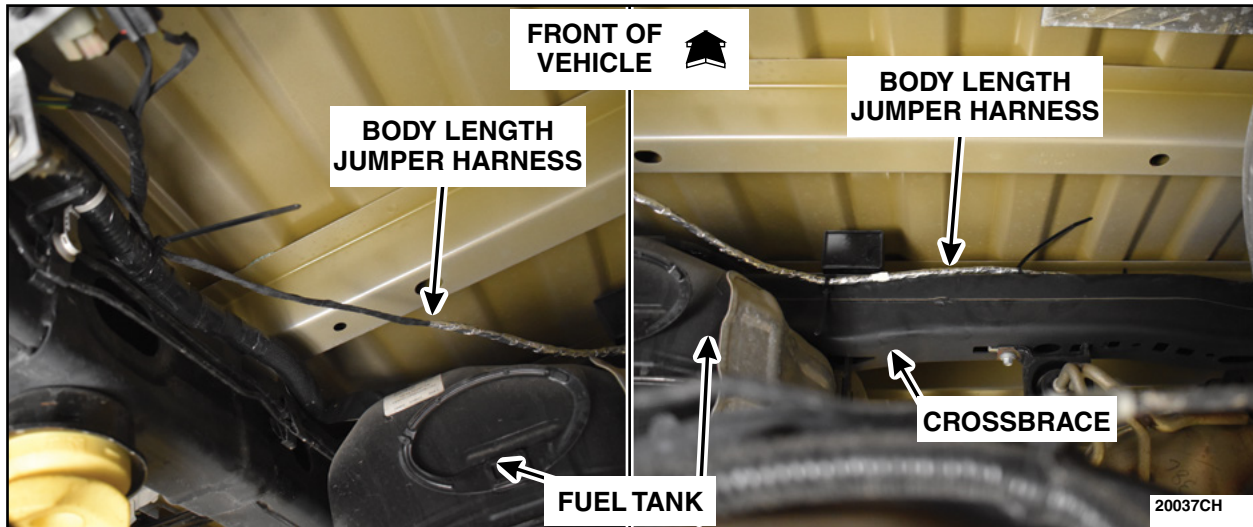

FIGURE 90
82. Continue to route the Body Length Jumper Harness along the LH frame rail. Once at the fuel tank, route the Body Length Jumper Harness across the crossbrace to the RH side of the frame rail on top of the fuel tank. Secure the Body Length Jumper Harness to the existing harness and to the holes within the crossbrace using the assorted supplied tie straps approximately every 12 in (305 mm). See Figures 90 and 91.